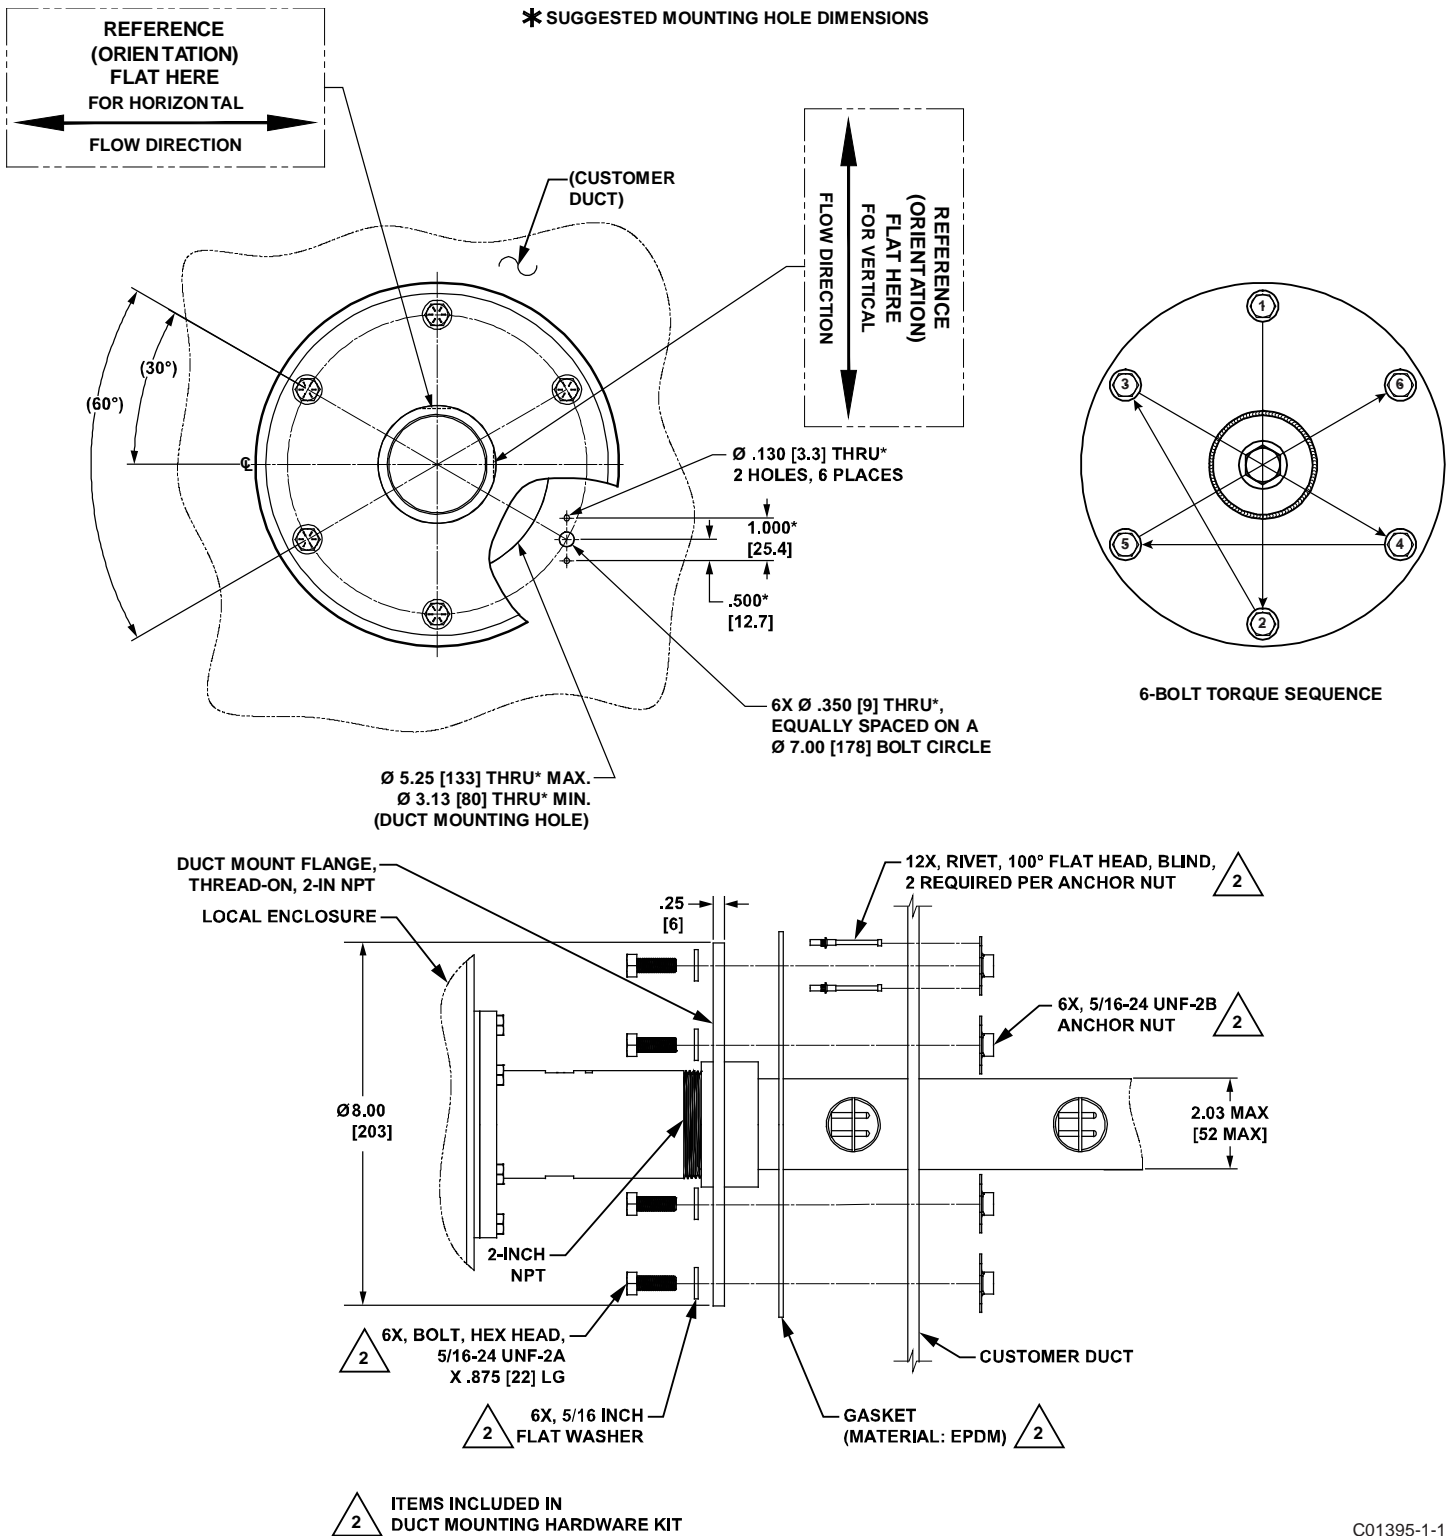

Figure 4 – Duct Flange Mounting, Dimensions, and Mounting Hardware
1. The exact placement of the flow element is typically predetermined at the time of order. Use hole pattern and hole sizes as shown in Figure 4, page 9 to drill holes for flow element duct mount flange. On opposite side of duct use hole pattern and hole sizes as shown in Figure 5, page 10 to drill holes for flow element duct mount end support.
4. Using supplied duct flange mounting kit hardware, install flow element to process duct as shown in Figure 4. Using star pattern bolt torque sequence shown in Figure 4 gradually torque duct flange securing bolts (6 ea. 5/16-24UNF x .875 lg) with final bolt torque at 10 ft-lbs (13.6 N-m).
5. With flow element assembly standpipe captured within end support sleeve loosely install 1/2-13UNF x 2-inch long bolt (included in optional end support mounting kit) into end support sleeve, engaging flow element standpipe (see Figure 5). (Note: Use the alternative installation method that uses a reinforcement plate if the supplied anchor nuts are not adequate for the application.) Using star pattern bolt torque sequence shown in Figure 4 gradually torque end support securing bolts (6 ea. 5/16-24UNF x 1.0 lg) with final bolt torque at 10 ft-lbs (13.6 N-m).